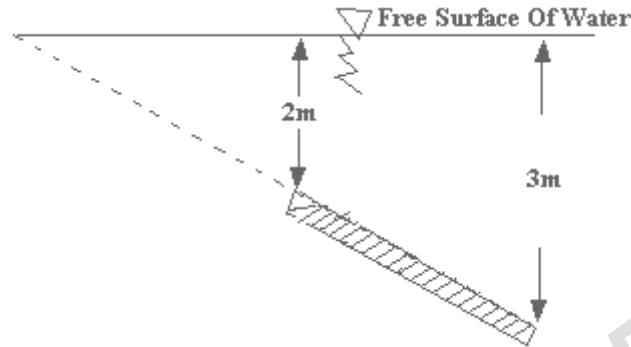

Figure 6c
- (c) A circular plate 2.5m in diameter is submerged in water as shown in figure 6c. Its greatest and least depths below free surface of water are 3m and 2m respectively. Find